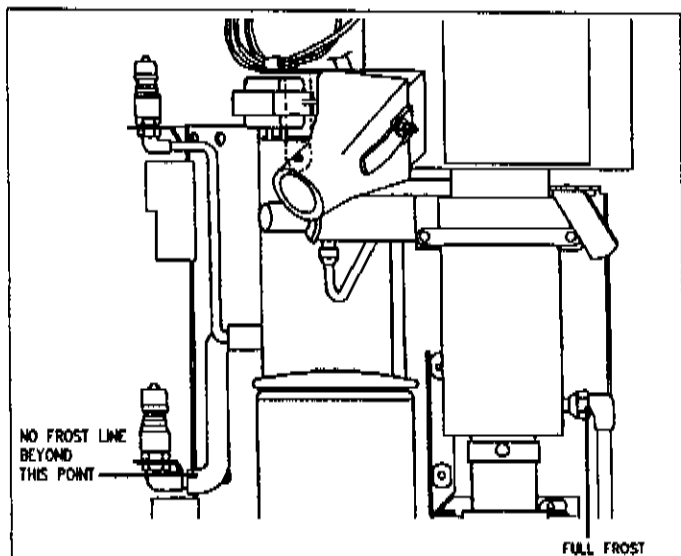

FIGURE 5 - 4 ICEMAKER EXPANSION VALVE ADJUSTMENT
3. For optimum Icemaker performance, the frost line should form on the suction line (see Figure 5 - 4).